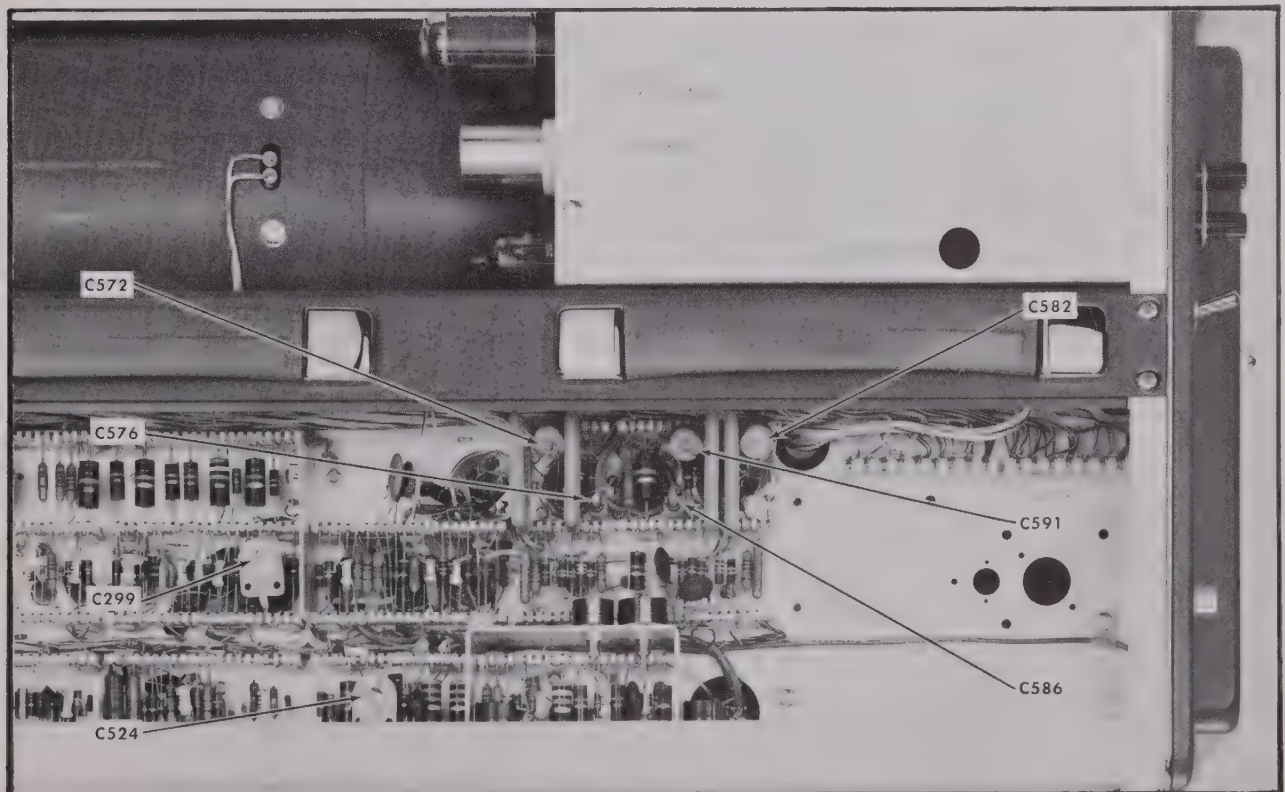

Fig. 5-8. Calibration adjustment locations.
If the first half of the sweep is non-linear and 1-cm spacing of the time markers is difficult to obtain, preadjust C299 (see Fig. 5-8) to improve sweep linearity.
- Adjust C299 (see Fig. 5-8) for proper timing of 1 cycle per cm from the 1-cm to 9-cm graticule lines. (Disregard the first sine wave near the 0-cm graticule line.)
- g. Check that C576 and C586 (see Fig. 5-8) slug-adjusting screws are about six turns above the metal wiper contacts of the capacitors.
- h. Adjust C572 and C582 (see Fig. 5-8) for maximum sweep expansion. (Use a low-capacitance alignment tool when making the adjustments.)
Adjust C591 (see Fig. 5-8) for best display linearity of 1 cycle per 2 cm.